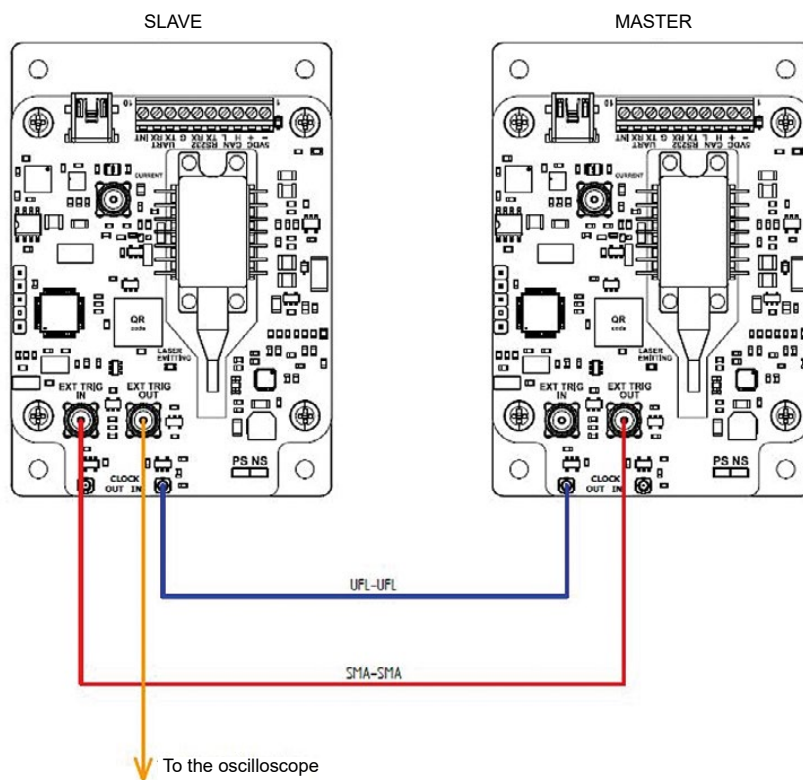

Figure 6: Driver's connections in sync mode
3. Connect slave driver External Trigger Out to an oscilloscope or other sync pulse receiver (fig. 6).